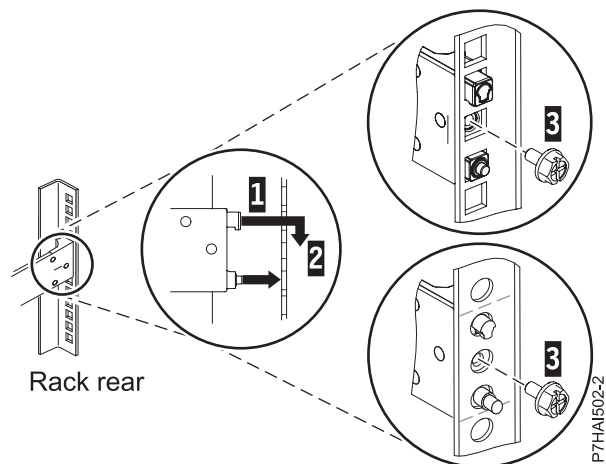

Figure 2. Aligning and engaging the pins into the holes in the rear of the rack
2. Remove the screw from the rear of the rail (3). Align the two pins located on the rear of the slide rail with the top and bottom holes within the selected EIA unit that were previously marked. Pull the slide rail toward you to insert the two pins into the rack holes (1), and lower the slide rail down (2) to engage the hook feature on the top pin. For details, see Figure 2. Ensure that the two pins protrude through the rack holes before you proceed to the next step.